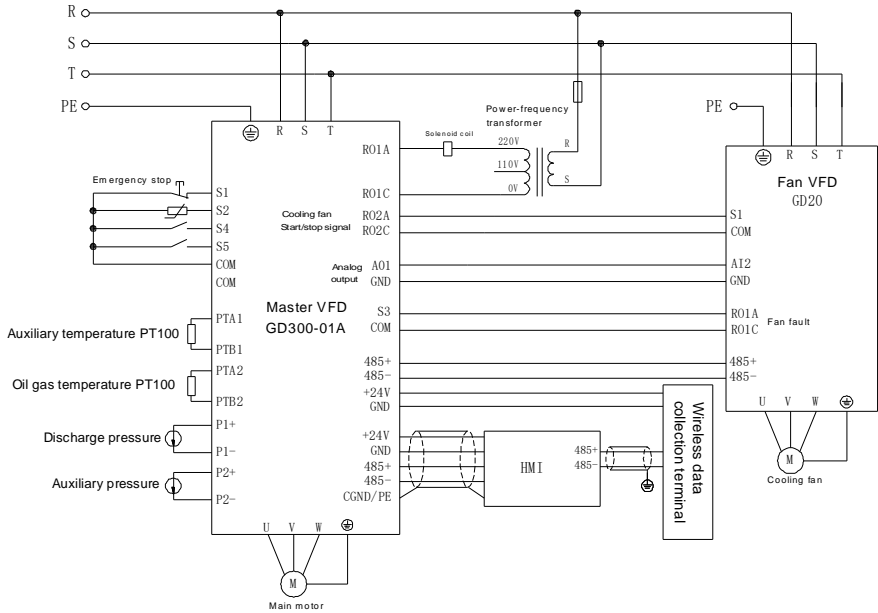

Figure 4-1 Wiring diagram of dual-VFD air compressor system
1. Perform wiring according to Figure 4-1 and ensure that the VFD for air compressor and the housing of the air compressor are grounded properly.